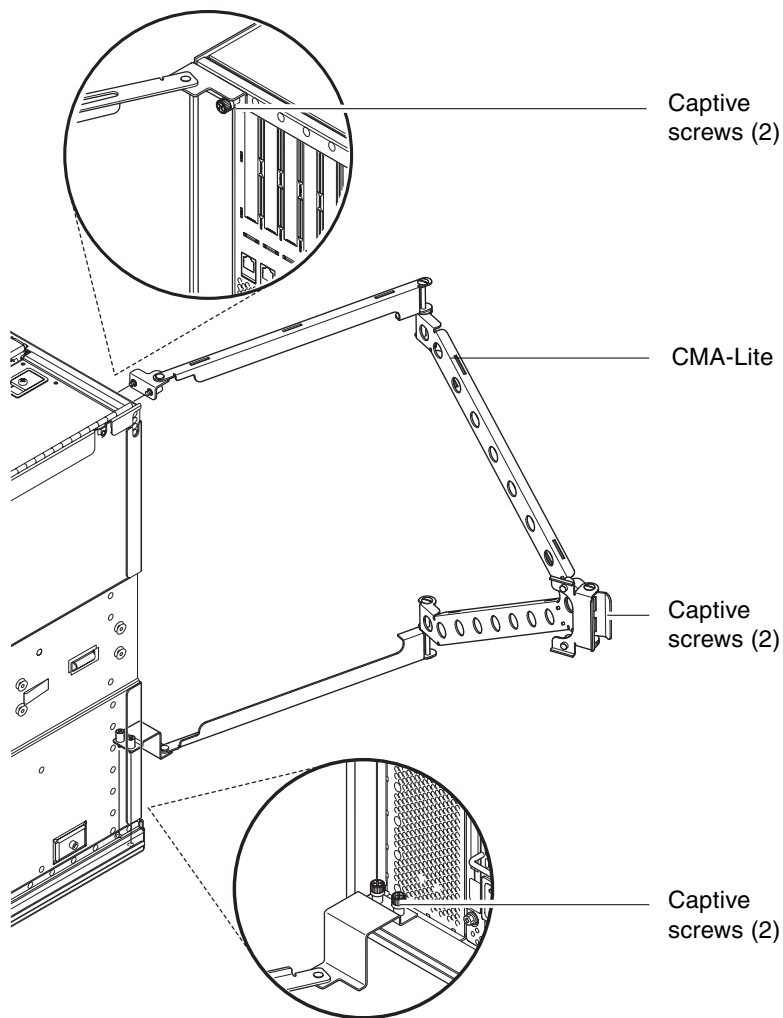

FIGURE 1-16 CMA-Lite Cable Management Arm
1. Secure the pivot at the end of the upper arm to the top rear of the system using the two captive screws (FIGURE 1-16).